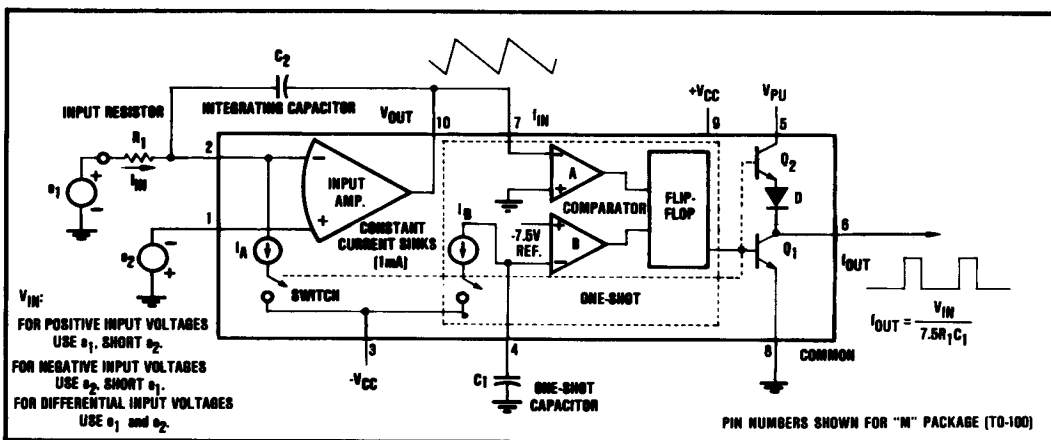
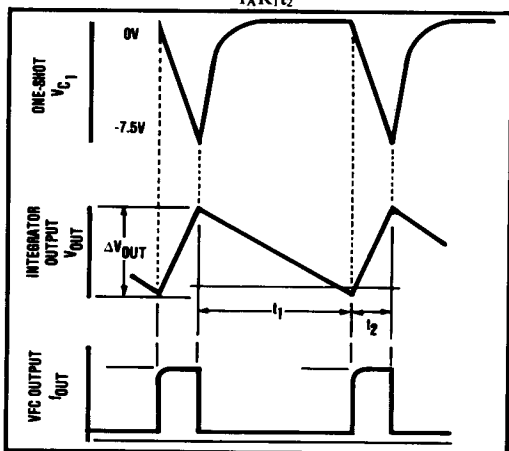

FIGURE 4. Functional Block Diagram of the VFC62.
FIGURE 5. Integrator and VFC Output Timing.
The VFC62 monolithic voltage-to-frequency converter provides a digital pulse train output whose repetition rate is directly proportional to the analog input voltage. The circuit shown in Figure 4 is composed of an input amplifier, two comparators and a flip-flop (forming a one-shot), two switched current sinks, and an active pull-up output transistor stage. Essentially the input amplifier acts as an integrator that produces a two-part ramp. The first part is a function of the input voltage, and the second part is dependent on the input voltage and current sink. When a positive input voltage is applied at  $V_{IN}$ , a current will flow through the input resistor, causing the voltage at  $V_{OUT}$  to ramp down toward zero, according to  $dV/dt = V_{IN}/R_1C_1$ . During this time the constant current sink is disabled by the switch. Note, this period is only dependent on  $V_{IN}$  and the integrating components.
for the circuit shown in Figure 4. Detailed waveforms are shown in Figure 5.
In general the design sequence consists of: (1) choosing  $f_{MAX}$ , (2) choosing the duty cycle at full scale ( $D_{FS} = 0.25$  typically), (3) determining the input resistor,  $R_1$  (Figure 4), (4) calculating the one-shot capacitor,  $C_1$ , and (5) selecting the integrator capacitor  $C_2$ .